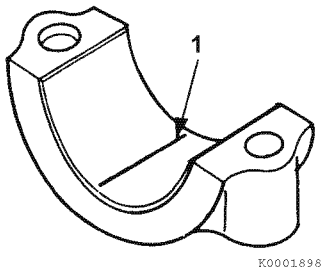

Figure 6-55
- 3- Place a piece of PLASTIGAGE® (Figure 6-55, (1)) along the full width of the bearing insert.